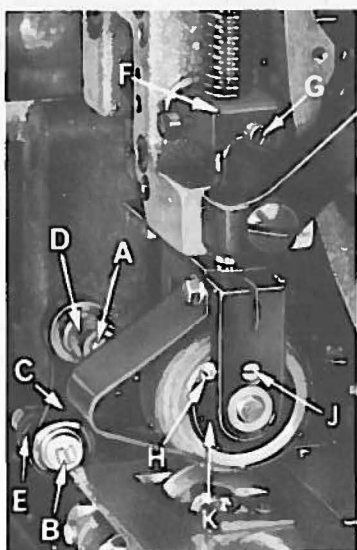
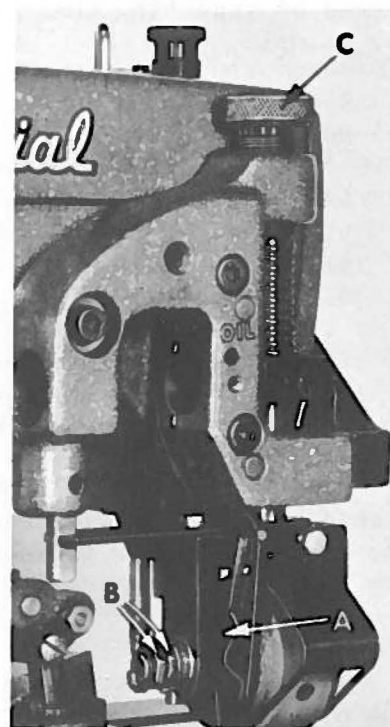

Fig. 18
Fig. 19
The puller mechanism must be timed to start its feeding cycle at the same time the main feed dog starts to feed. This can be accomplished by advancing or retarding the puller drive eccentric located on the mainshaft. The puller mechanism should be adjusted to do most of the feeding so when sewing at slow speed the material does not build up between the presser foot and the puller rollers. There should be just enough upper feed roller travel to keep the material taut when sewing at slow speed. This can be accomplished by loosening screw (A, Fig. 18) and/or shoulder screw (B) to reposition the connecting link (C) in the clutch driving segment lever (D) or puller driving segment lever (E) as required to obtain desired amount of feed, retighten screws (A and B).
With puller mechanism in its down position, the feed roller presser bar collar (F, Fig. 18) should be approximately 3/16 inch (4.76 mm) above the feed roller mounting bracket casting. Adjustment can be made by loosening screw (G) reposition collar as required, retighten screw (G) securely.
The "Clutch Brake" is set properly when the tension spring (A, Fig. 19) has just enough pressure on it to prevent the roller from overthrowing or backfeeding. The tension on the spring is regulated with nut and locknut (B). The more the nut is tightened to compress the spring the more pressure is exerted on the roller to prevent overthrow. The spring pressure can become too excessive and cause the roller to back-feed by overcoming the spring pressure of the inside clutch mechanism. The proper spring pressure can be checked and
Raise the clutch off the lower roller and loosen screw (H, Fig. 18). Remove stop screw (J) from support plate (K). Now run the machine full speed; while the machine is running, pick out a point on the roller such as the screw hole or a pencil line. This point should rotate 90° in direction of feed in approximately 3 to 4 seconds with the roller in the up position. If the roller does not have any movement under full speed, then the nuts (B, Fig. 19) should be loosened and reset with less tension on the spring until the proper setting is obtained. If the roller moves too fast, then follow the same procedure except the nuts should be tightened to compress the spring until the proper setting is obtained.
CAUTION! The machine and/or clutch should never be run unless both nuts (B, Fig. 19) are locked together even during the adjusting of the machine.
Should more or less pressure on the upper puller roller mechanism be required to pull the material through uniformly, turn the feed roller presser spring regulator, (C, Fig. 19) clockwise to increase pressure or counterclockwise to decrease.